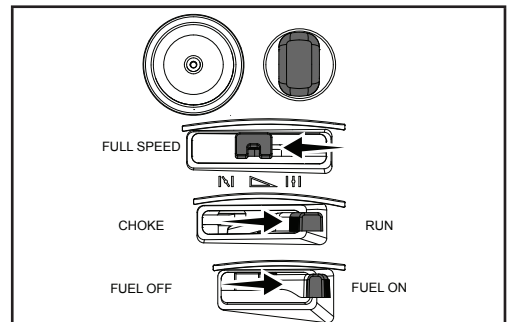

Figure 12
2. To start a warm engine: (Fig. 12).